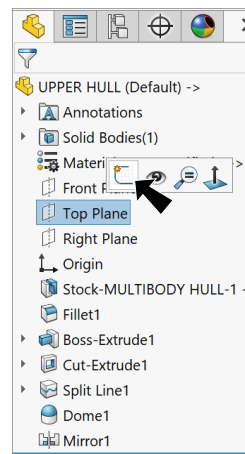

Fig. 26
Step 1. Click **Top Plane** in the Feature Manager and click **Sketch** on the context toolbar, **Fig. 26**.